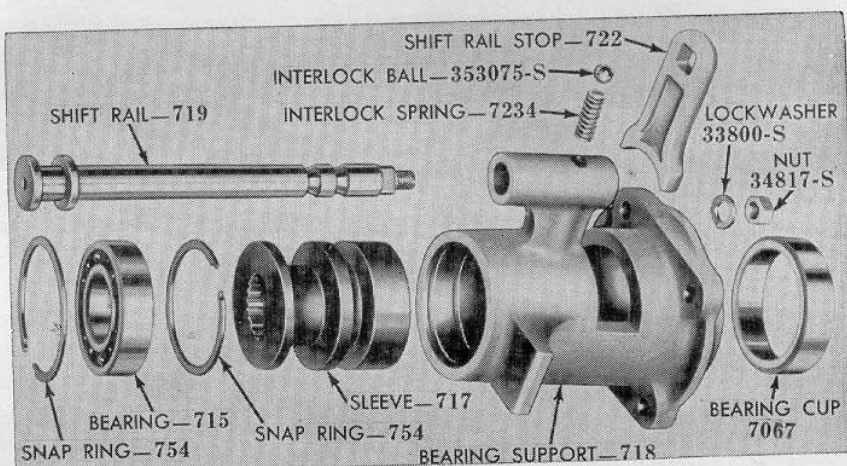

Fig. FO75—Power take-off shifter assembly which is mounted on rear wall of transmission housing. Models 2N-8N-9N. Refer also to Fig. FO57.
The front end of the power take-off shaft is supported in a ball bearing (715—Fig. FO75) mounted in support (718) located on the rear wall of the transmission housing. Rear end of shaft is supported in a similar type bearing mounted in a retainer on the rear face of the center housing. An adapter is available to increase shaft size to 1 3/8 inch to permit use of ASAE standard implement drive couplings. The pto shaft revolves at 545 rpm when the crankshaft is revolving at 1500 rpm.
the center housing. Remove the cap screws retaining the unit to the rear wall of the transmission housing Fig. FO56. Procedure for overhaul is self-evident after examining the unit or the components as shown in Fig. FO75.